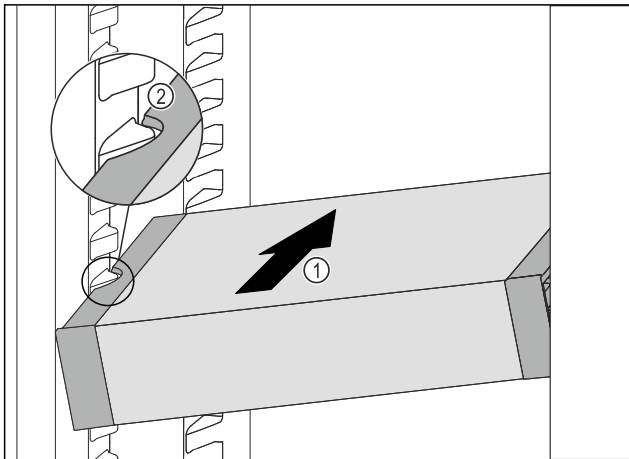

Fig. 37
- ▶ Insert the VarioSafe into the refrigerator compartment at an angle Fig. 37 (1) until the recesses in the side Fig. 37 (2) of the VarioSafe are at the level of the support rib in the refrigerator compartment.